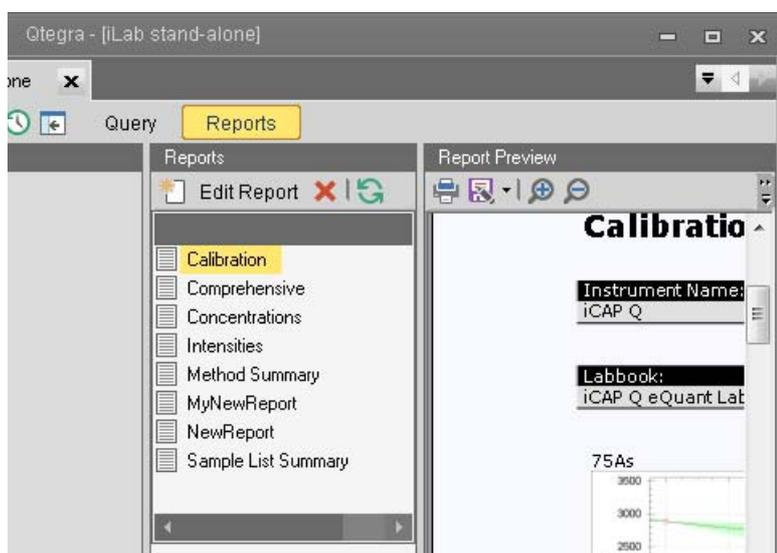

Figure 8-22. Reports page of completed LabBook showing executed Report
5. The Report is generated as defined in the Report template selected and displayed in the **Report Preview** on the right, see Figure 8-22.